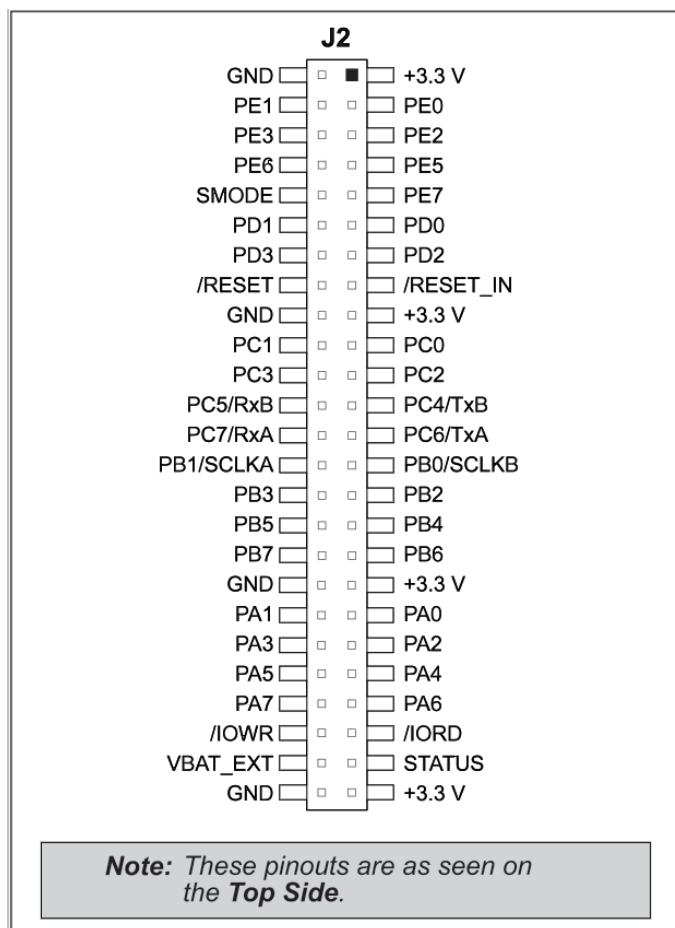

Figure D-4. MiniCore Boards Pinout
- **Module Extension Headers**—The complete pin set of the MiniCore module is duplicated below header J2. Developers can solder wires directly into the appropriate holes, or, for more flexible development, a 2×25 header strip with a 0.1" pitch can be soldered into place. See Figure D-4 for the header pinouts.
The Digital I/O accessory board provides the user with MiniCore connection points brought out conveniently to labeled points below header J2. The pinouts for header socket J2 are shown in Figure D-4.